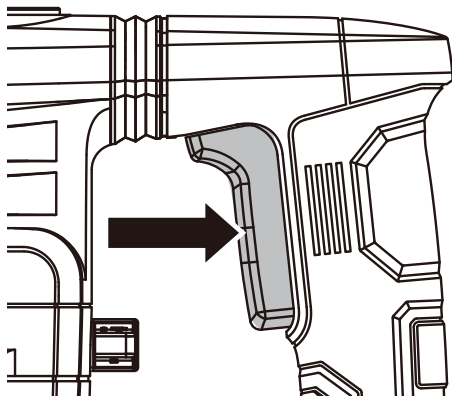

Figure 4
1. ON/OFF SWITCH (SEE FIG. 4) - SWITCHING ON AND OFF